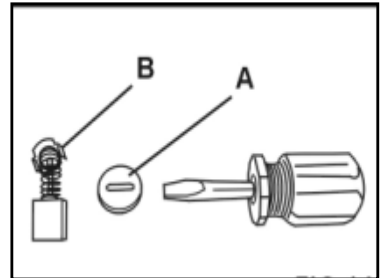

Fig.25
Check brushes regularly, if worn down to 1/4" (6mm), Replace brushes. Carbon brushes should be clean and slide freely in holder. Carbon brushes should be replaced in pairs. Use a flat blade screwdriver to remove the brush cap (A), take out the worn carbon brush (B) insert new carbon brush and secure the brush holder cap. Refer to Fig.25